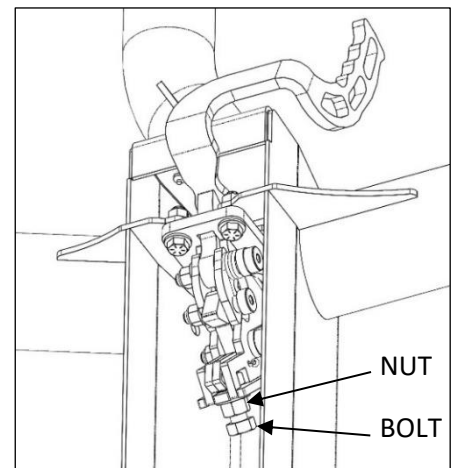

Figure 4: Latch Adjustment
- c. Loosen Nut shown in Figure 4.
- d. Loosen (small increments such as ½ turn) Bolt shown in Figure 4.
- b. Loosen Nut shown in Figure 4.
- c. Tighten (small increments such as ½ turn) Bolt shown in Figure 4.
- 7. Tighten Nut shown in Figure 4 (torque up to 90 lb-ft) while holding the Bolt stationary with another wrench.